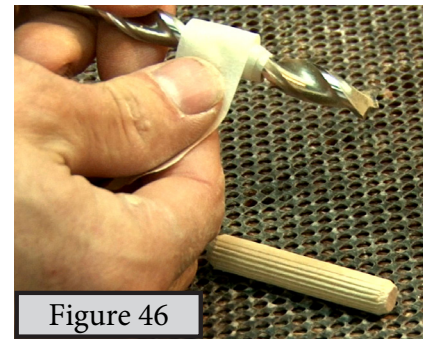

Figure 46
46) Use masking tape to mark a depth stop on your 3/8" drill bit at 1-1/4". This drill bit is not included in your hardware pack. However, it's a common size in most drill bit sets. (Figure 46)